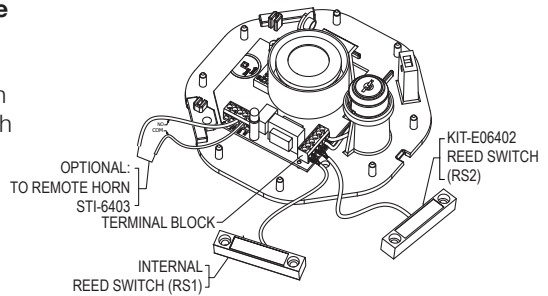

Figure 4
3. First reed switch is connected to RS1. Remove jumper and connect second in RS2 (Fig. 4). Refer to Fig. 1 for additional details.